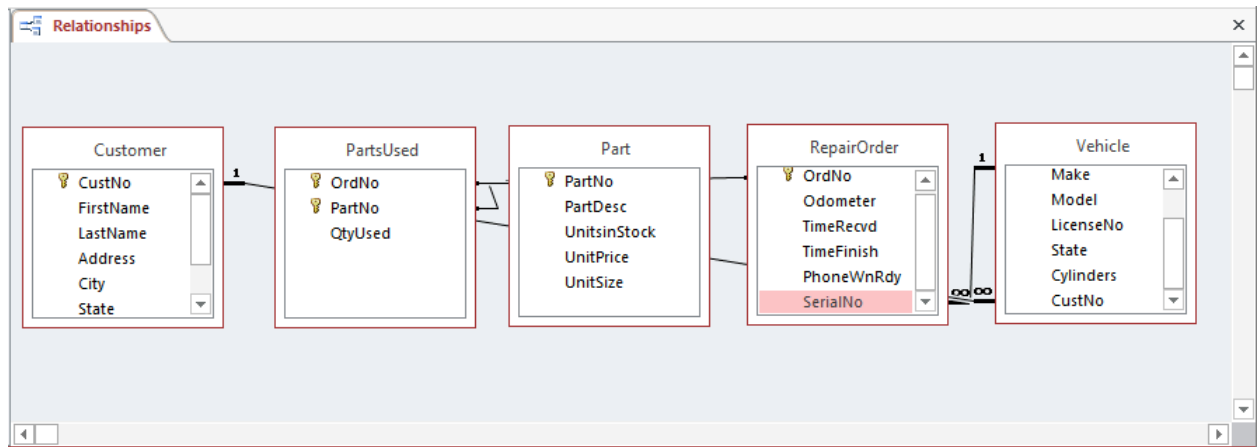

Figure 49: Disorganized Table Order and Connecting Lines
1. **Open the Relationships Window:** In the ribbon's **Database Tools**, click the **Relationships** button to open the Relationships window. If the Lookup Wizard has been used, tables will already appear in the window. However, they may be poorly organized with crossing connection lines (Figure 49).